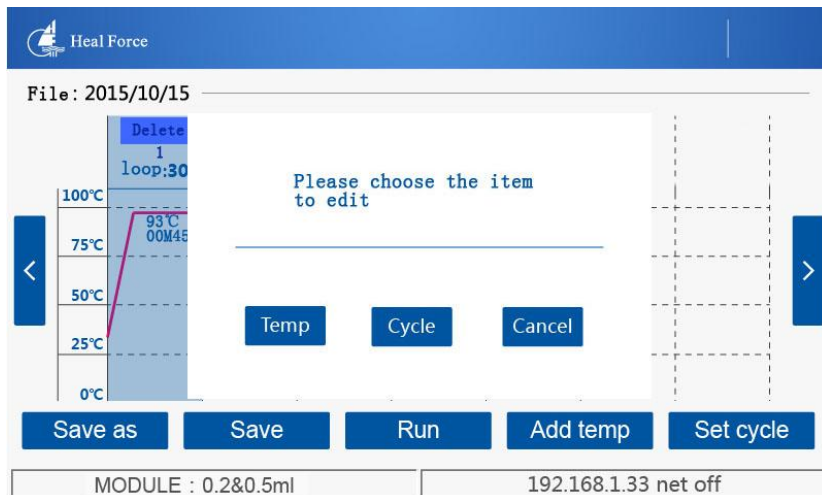
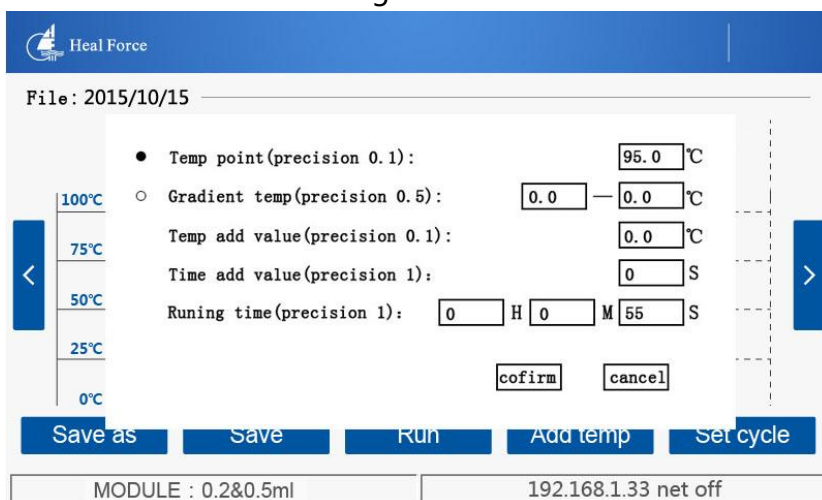

Figure 4-5
Figure 4-6
STEP 2: Log into the program edit interface, keep pressing the temp point for 2S, it pops out the "temp" or "cycle" edit menu(Figure 4-5), select "temp" to edit temp value(Figure 4-6).
If you need add a temp point, please select the "add temp" button at the bottom, and input the temp value(Figure 4-6).
If you need edit the cycle NO, please keep pressing any temp point in the cycle, it pops out the menu (Figure 4-5), select “cycle” (notice: the “cycle” menu only can edit the number of the cycle not the initial or end temp point value).